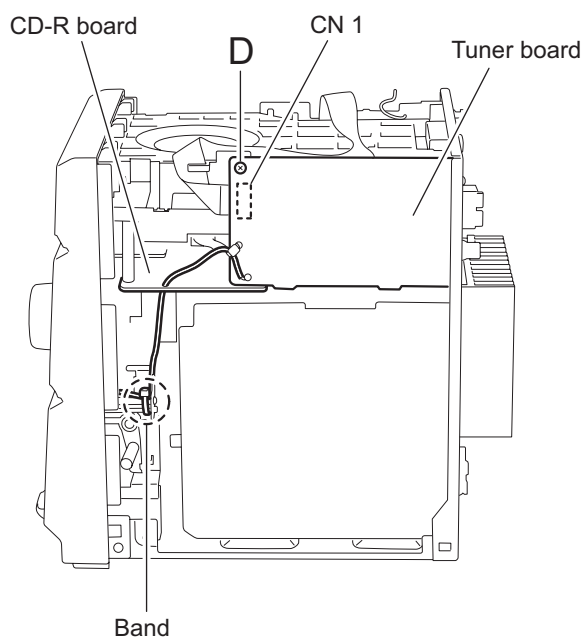

Fig.4
2.1.3 Removing the tuner board (See Fig.4, 5)